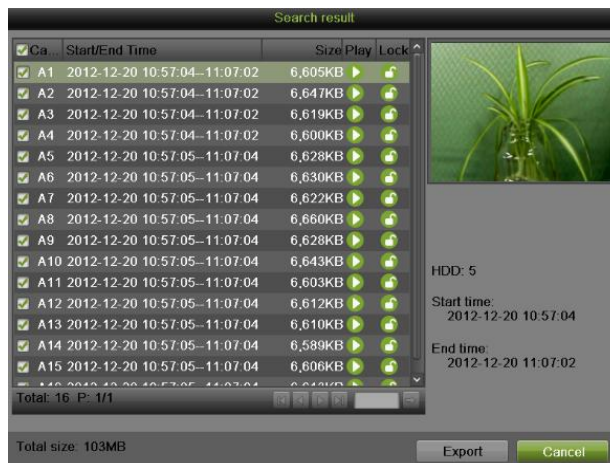

Figure 162 Search Result Interface
6. Click the Search button. A search result box will pop-up, as shown in Figure 162.